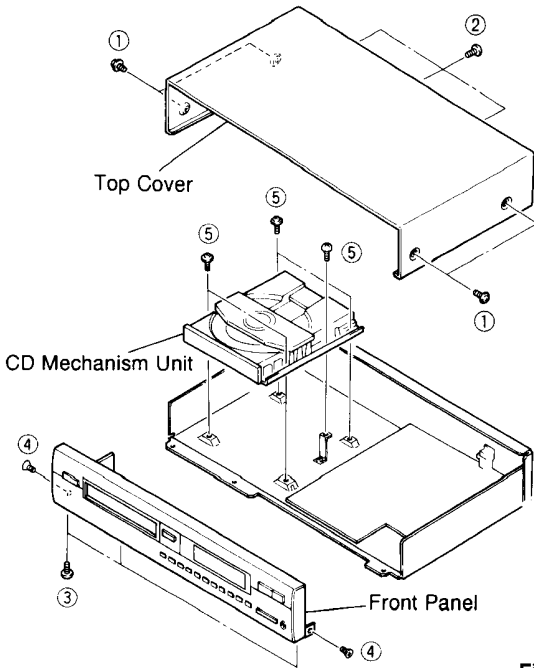

Fig. 1
- a. Remove 4 screws (①) and 3 screws (②) in Fig. 1.
- b. Remove 3 screws (③) and 2 screws (④) in Fig. 1.
- b. Remove 5 screws (⑤) in Fig. 1.